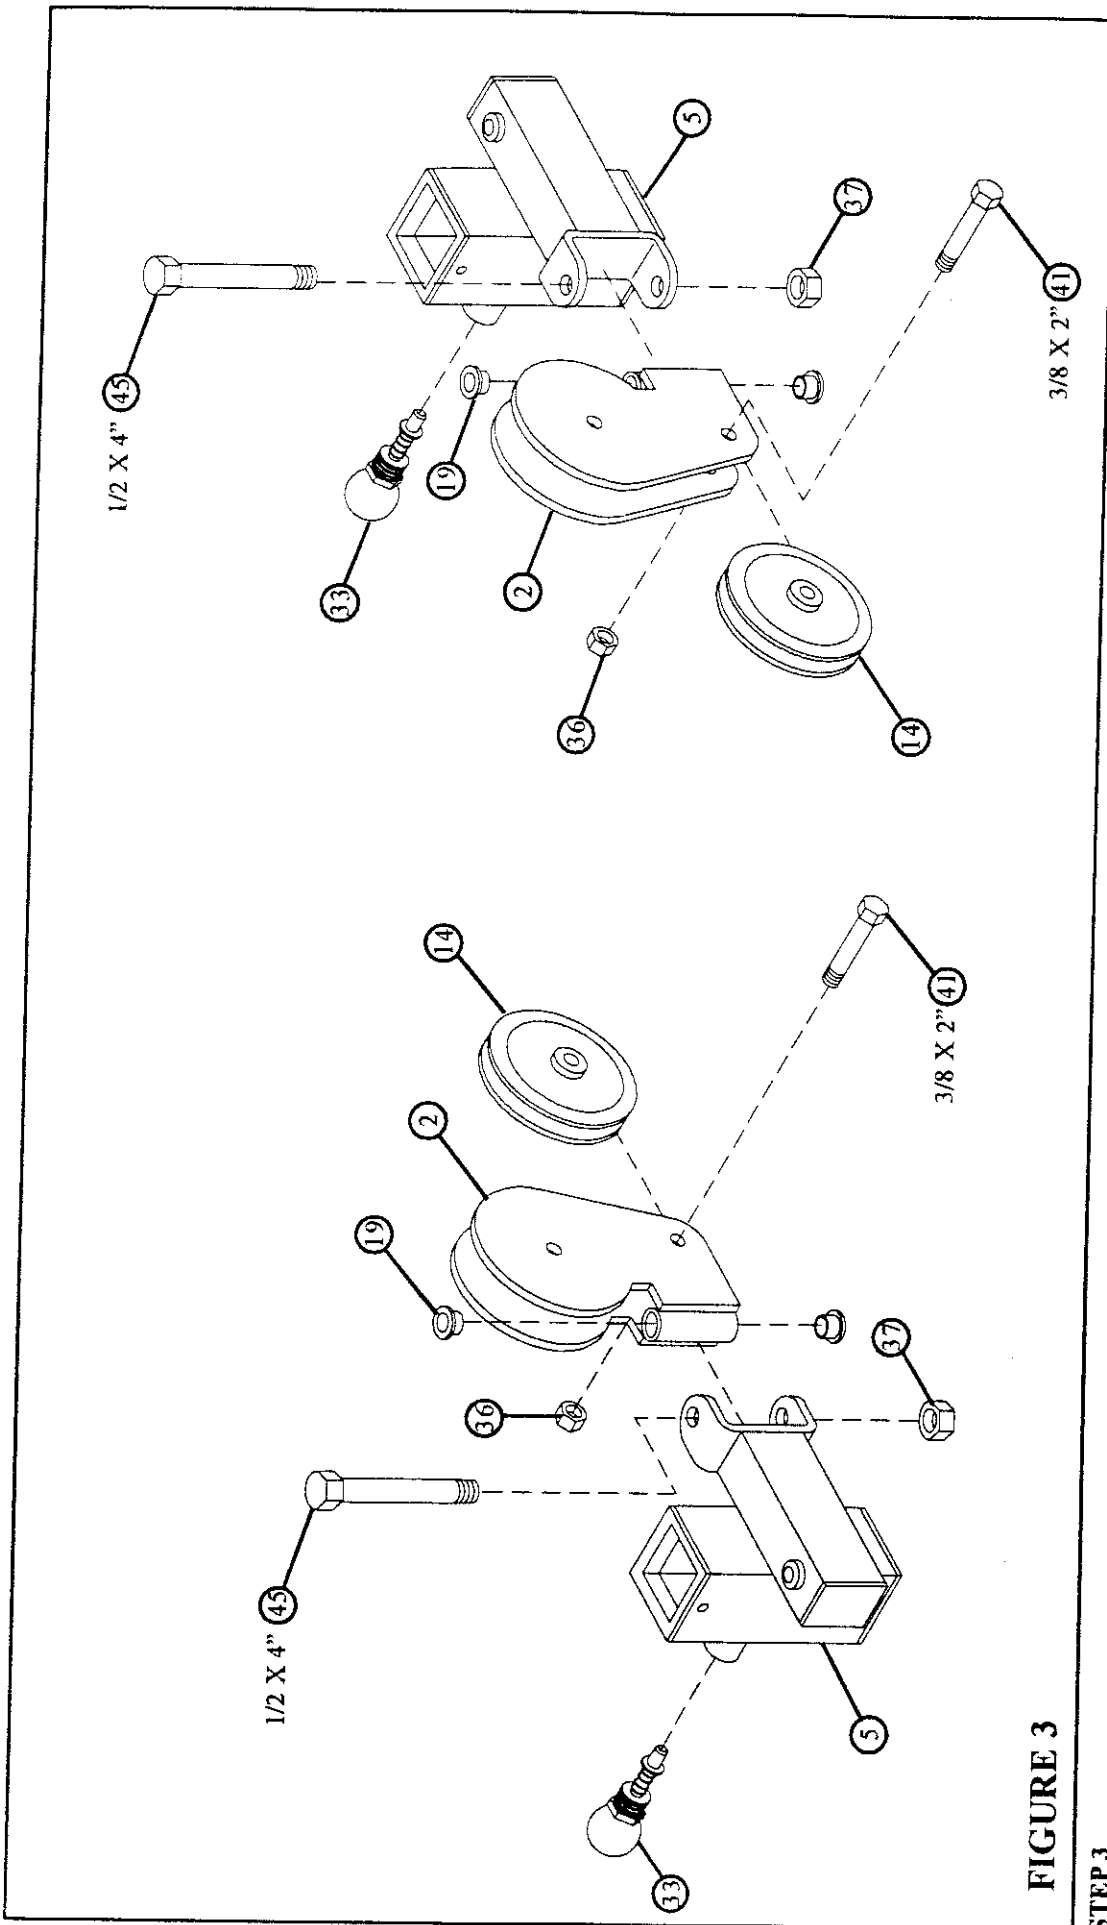

FIGURE 3
- **SECURELY** assemble two 3-1/2" PULLEYS (14) to the two NOVATRAK SWIVELS (2) using two 3/8 X 2" BOLTS (41) and two 3/8" LOCK NUTS (36). See FIGURE 3.
- Insert two 1/2" FLANGE BEARINGS (19) into each end of the NOVATRAK SWIVELS (2) and assemble them to the SWIVEL HOLDERS (5) using two 1/2 X 4" BOLTS (45), and two 1/2" LOCK NUTS (37). **(NOTE: Tighten connection enough to remove play, yet allowing the SWIVEL HOLDER (2) to rotate freely.)** See FIGURE 3.
- **SECURELY** assemble two 3/8" SPRING PIN ASSEMBLIES (33) to the SWIVEL HOLDERS (5). See FIGURE 3.